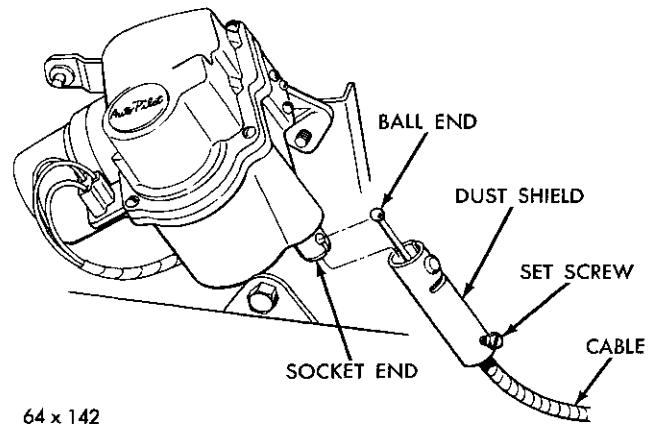

Fig. 2—Auto Pilot Dust Shield
(1) Loosen but do not remove the screw on the dust shield. (This screw retains the control cable in the bottom of the dust shield) (Fig. 2).